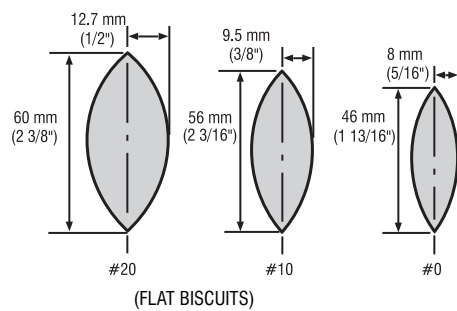

FIG 4
- Reinstall the blade by reversing the steps above. Be sure blade teeth point counterclockwise as shown in Figure 4.